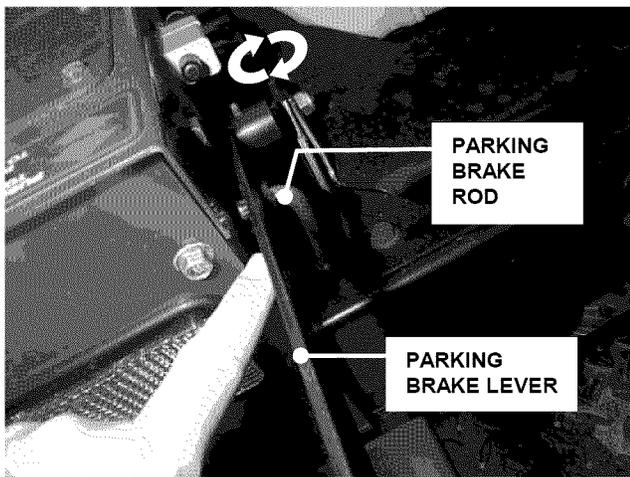

FIGURE 4.3
3. Disconnect parking brake rod from parking brake. See Figure 4.3.
1. The parking brake can be adjusted by removing the rod from the lever and rotating it clock-wise to increase brake tension. When properly adjusted, the parking brake lever should require 18 to 22 pounds of force to set the brake. If this adjustment does not result in proper braking action contact your authorized SNAPPER dealer for corrective action. See Figure 4.3.